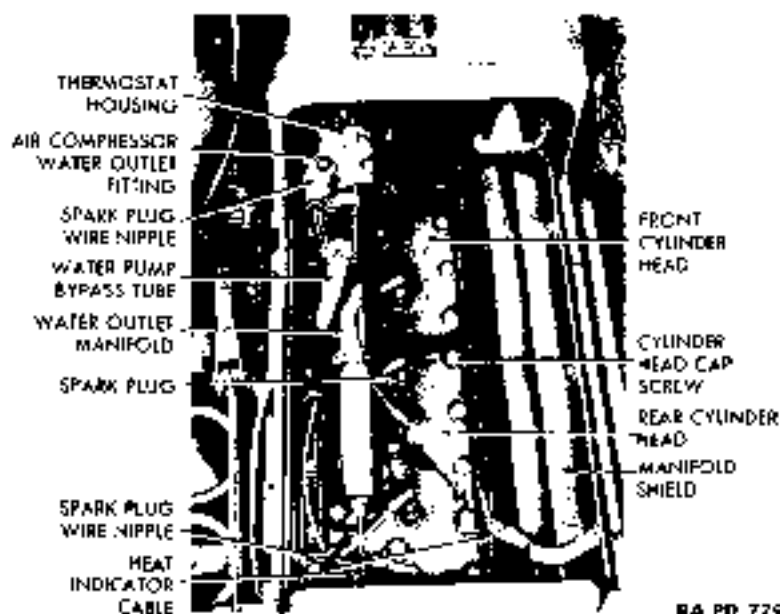

Figure 13 - Cylinder Heads Installed
c. **Remove Water Outlet Manifold** (fig. 13). Remove the two cap screws and lock washers which secure water outlet hose flange to manifold. Remove gasket between flange and manifold. Disconnect air compressor water outlet tube from manifold. Loosen hose clamp, and disengage water pump bypass pipe from thermostat housing. Remove left rear thermostat housing cap screw and lock washer, and lift spark plug wire nipple from screw. Screw heat indicator cable from rear end of manifold. Remove the four cap screws and lock washers which attach manifold to the two cylinder heads, and lift manifold from cylinder heads.
d. **Remove Spark Plugs** (fig. 13) (par. 33).
e. **Remove Cylinder Heads** (fig. 13). Remove the 16 cylinder head cap screws and lock washers. Lift both cylinder heads and gaskets from cylinder block.
a. **Connect Cylinder Heads to Cylinder Block** (fig. 13). Soak cylinder head gaskets in water for about 15 minutes. Place gaskets in position on top cylinder block, and place front cylinder head in position on its gasket. Place rear cylinder head in position on its gasket. Insert the 16 cylinder head cap screws into their openings on each cylinder head. Place bond strap and heat indicator cable bracket under cap screw third from rear on right-hand side of rear cylinder head. Place spark plug wire nipples under screws second from front and second from rear on left-hand side of rear cylinder head. Place bond strap and spark plug wire nipple on cap screw second from front on left-hand side of front cylinder head. Beginning at center and working toward ends of each cylinder head, tighten cylinder head cap screws to 52½ foot-pounds tension.
b. **Install Water Outlet Manifold** (fig. 13). Use new gaskets, and coat them with a film of No. 2 general purpose grease. Place gaskets in position on cylinder heads. Position manifold on gaskets, and install the four lock washers and nuts which attach manifold to cylinder heads. Screw heat indicator cable into fitting on rear end of manifold. Place lock washer and spark plug wire nipple on left rear thermostat housing screw, and install screw. Work bypass tube hose fitting onto thermostat housing boss, and tighten clamp. Connect air compressor water outlet tube to manifold. Position a new gasket, covered with a film of No. 2 general purpose grease, between water outlet hose flange and manifold. Install the two lock washers and cap screws which attach flange to manifold.
c. **Install Spark Plugs** (fig. 13) (par. 83). Connect wires to adjacent spark plugs. Refer to wiring diagram of ignition system (fig. 43).
- (3) **REMOVE MANIFOLD SHIELD** (fig. 13). Remove the two nuts, lock washers, and bolts which attach shield to cab frame structure on each end of shield, and remove shield.
(6) **INSTALL MANIFOLD SHIELD** (fig. 13). Position shield to cab frame structure. At each end of shield, install the two bolts, lock washers and nuts which secure shield to cab.